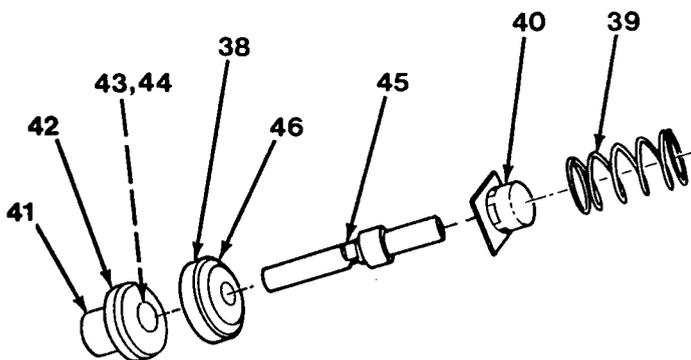

Figure 17-7
9. Install new piston ring (46) on piston (38, Figure 17-7). Caution should be taken when installing piston ring (46).
10. Install piston assembly (45) on piston assembly (38). Note direction of piston (45) as recorded during disassembly.
11. Install back-up ring (44) and cup (43) in bore of end plug (41).
12. Install O-ring (42) on end plug (41).
13. Install end plug (41) on piston assembly (45).